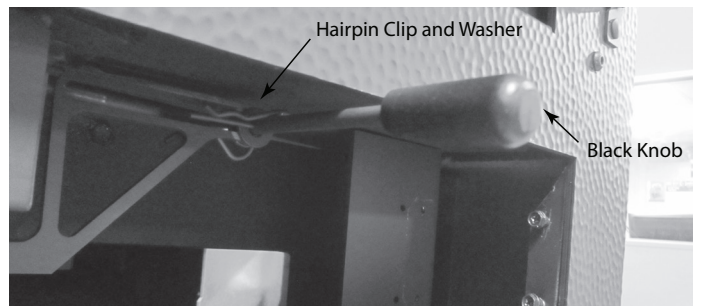

Figure 4.28 Removal of Handle
3. Unscrew and remove the black knob. See Figure 4.28.
4. Pull off and remove the hairpin clip and the washer on the rod. See Figure 4.28.